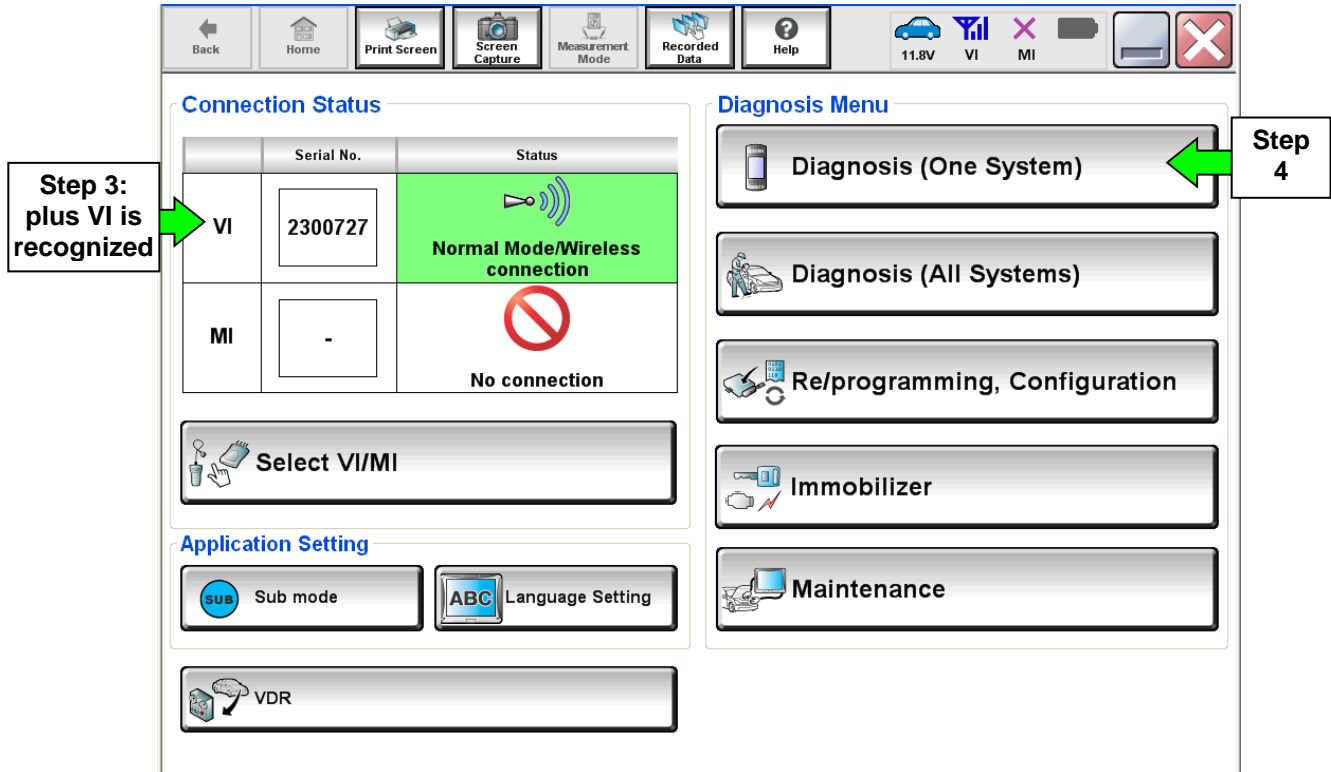

Figure 1A
1. Return to the C-III- plus Home screen, Figure 1A.